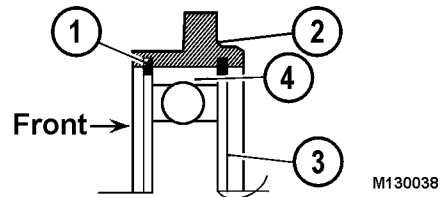

FIGURE 13-23.
*Note: This retaining ring has two flat sides (3, Figure 13-23).*
3. Coat outer race of front bearing (4, Figure 13-23) with thin coat of loctite.